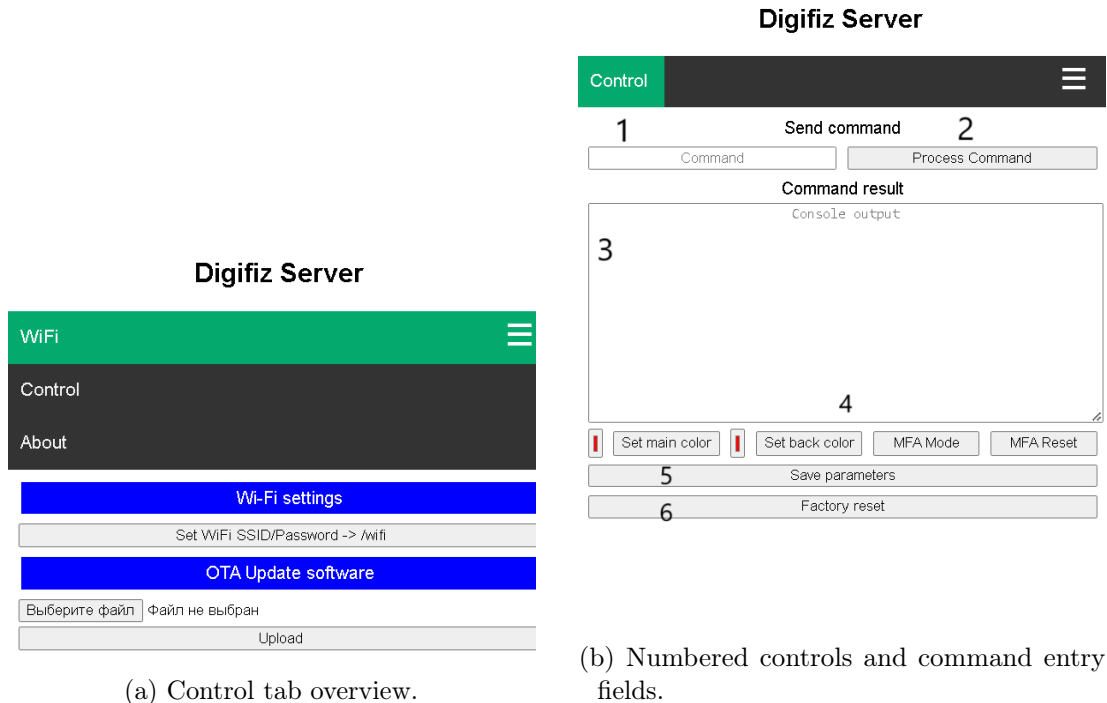

Figure 8.2: Digifiz Next Wi-Fi control interface.
- The portal contains five tabs: WiFi, Control, Settings, Colors, and About (Figure 8.2). The Wi-Fi tab configures network settings and handles firmware